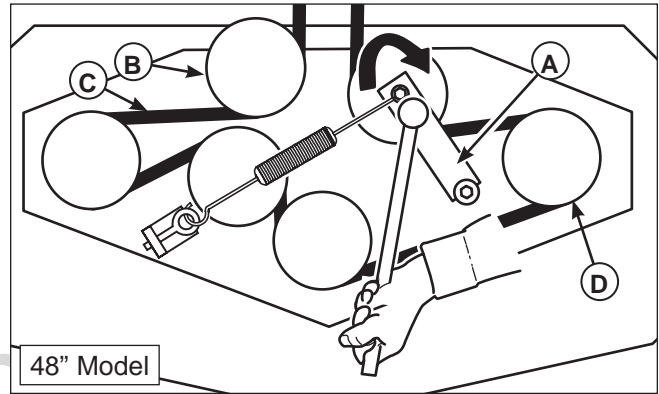

Figure 41. Mower PTO Belt
3. Using a 1/2" breaker bar, place the square end in the square hole located in the end of the idler arm (A, Figures 41). Carefully rotate the breaker bar **CLOCKWISE**, which will relieve the tension on the belt exerted from the idler arm.
4. Slide the drive belt over the edge of the stationary idler pulley (B). Carefully release the tension on the breaker bar.
6. Install the drive belt on the PTO pulley, the spindle pulleys and all idler pulleys except the stationary pulley (B, Figure 41). Carefully rotate the breaker